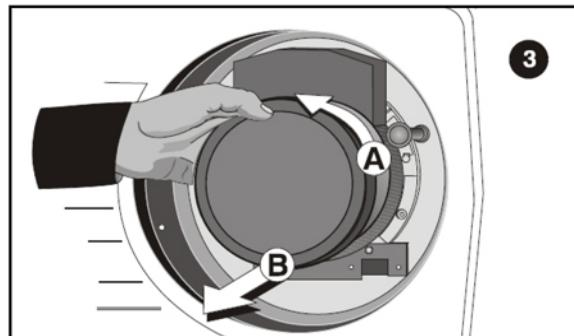

Figure 3-2 Lens Removal
3. Rotate the lens counter-clockwise until the tabs are free of the retaining ring (Figure 3-2 A). Pull lens out (Figure 3-2 B). Lens connectors will disconnect when the lens is pulled straight out.